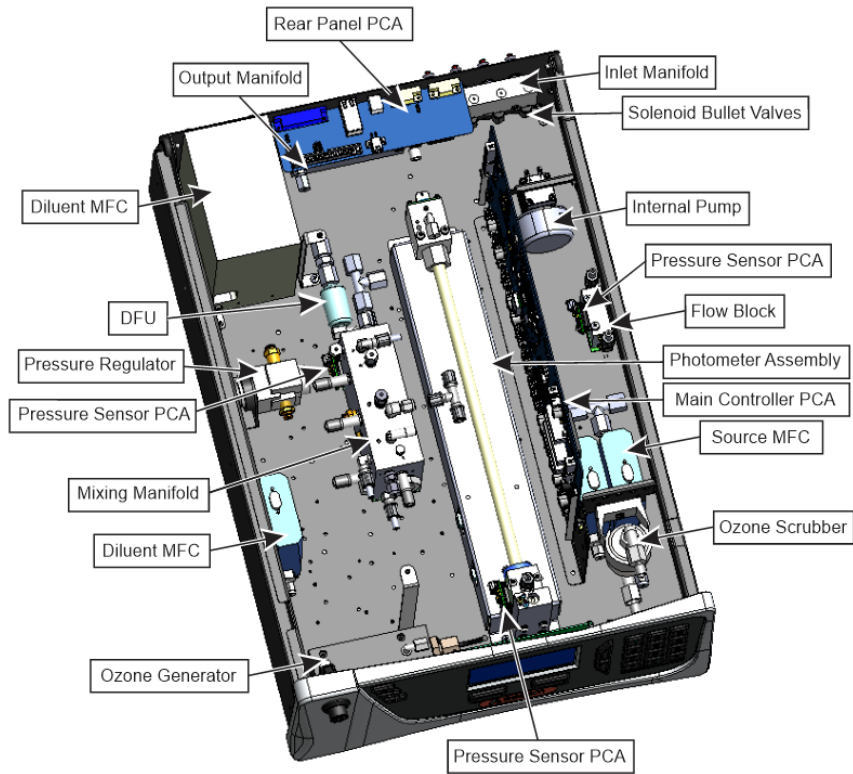

Figure 13 – Major Components of Serinus Cal 3000
Refer to Figure 13 for CAL 3000.
The Serinus Cal 3000 has a pressure sensor installed on the main controller PCA to monitor the ambient pressure. An additional differential pressure sensor is installed on the mixing manifold to monitor the flow of the output of the Ozone generator. Lastly there are two more ambient pressure sensors installed on the photometer assembly and on the flow block to monitor the flow through the photometer, refer to Figure 13.
Refer to Figure 13 for the location of mixing manifold. This manifold contains the solenoid bullet valves, the Ozone mixing chamber and the Ozone flow pressure PCA. It also houses the orifice which controls the flow from the Ozone generator to the Ozone mixing chamber as well as an orifice for the photometer reference air flow. As the name of the manifold suggests all the gases pass through this manifold and mix to form the user defined gas concentration. If the point uses Ozone the mixing occurs in the mixing chamber. All the ports are labelled with letters A through to R to help identify them using the plumbing diagram (refer to Section 1.1).
Refer to Figure 13 for the location of internal pump. The internal pump draws a sample of generated Ozone from the output manifold, through the photometer assembly to be measured before scrubbing the Ozone and passing it out the exhaust port.
Refer to Figure 13 for the location of flow block. The flow block measures the downstream pressure created by the pressure drop caused by the internal pump and the critical orifice. The pump speed is controlled by the main controller PCA in order to maintain sufficient pressure drop across the critical orifice within the photometer assembly. This ensures that a stable photometer flow is maintained.
Refer to Figure 13 for the location of photometer assembly. The photometer assembly consists of an detector, detector PCA, measurement cell, orifice and sintered filter, UV lamp, heater and thermistor, pressure sensor PCA and lamp driver PCA. It is a non-dispersive ultraviolet (UV) photometer which switches between measuring Ozone from the output manifold and from the reference air. It calculates the ratio of transmitted light between the two signals providing an accurate and reliable measure of Ozone concentration.
Refer to Figure 13 for the location of Ozone scrubber. The Ozone scrubber is used to eliminate the Ozone from the air to protect the internal pump. It uses manganese dioxide (MnO_2) as the catalyst to selectively eliminate Ozone.